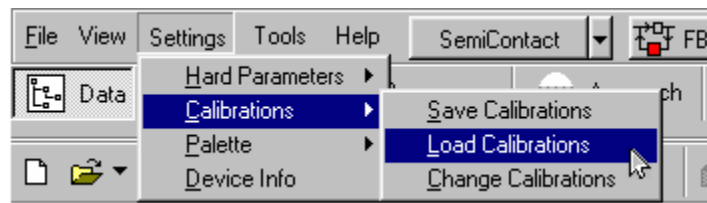

Fig. 2-11
2. Select «Calibrations» from the pop-up menu and then «Load Calibrations» (Fig. 2-11);
3. The list of PAR files from the PARFiles folder appears, for example, as shown on Fig. 2-11. File names, which correspond to the certain scanners, begin from the letter "z", first two digits after "z" correspond to the max scan size, and next three digits is the scanner serial number. In the given example z10019Y file corresponds to the 10um scanner, z50087Y file to the 50um scanner and z03067Y to the 3um scanner;